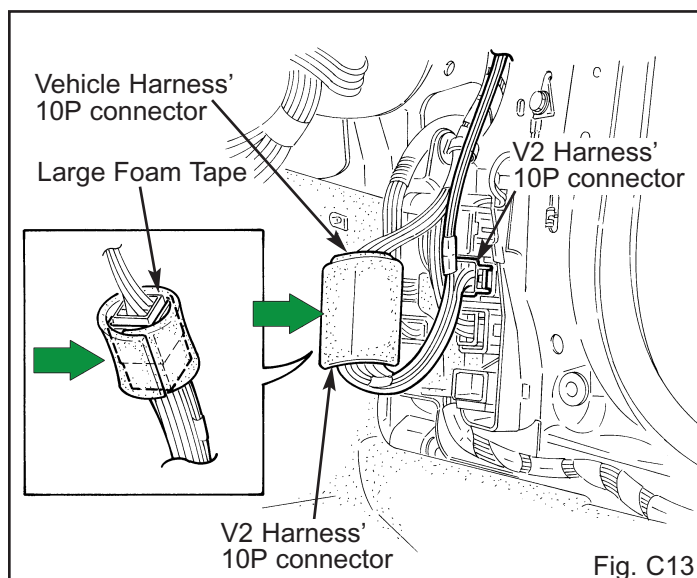

Fig. C13
16. Plug in the V2 harness' gray 10P connector between the vehicle harness' gray 10P connector and the passenger side cowl area. (Fig. C13)
17. Wrap the gray 10P connector with one large strip of foam tape. (Fig. C13)